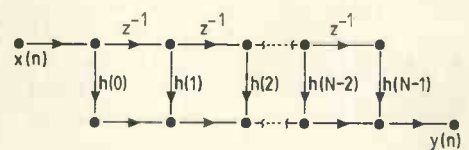

Fig.5. Direct-form FIR filter
Both equations (3) and (4) may be represented in networks structure shown in Fig. 5. Since the filter coefficients can be identi-
fied directly from the difference equation (3) this structure is referred to as a direct-form realization of a FIR filter. The branches labelled with z in Fig. 5 correspond to the analogous delays in (3) and the multiplications by z^{-1} in (4). The portion of code to implement a length-5 FIR filter (for TMS32010) is shown in Fig. 6, while the length-5 FIR filter is illustrated in Fig. 7. As